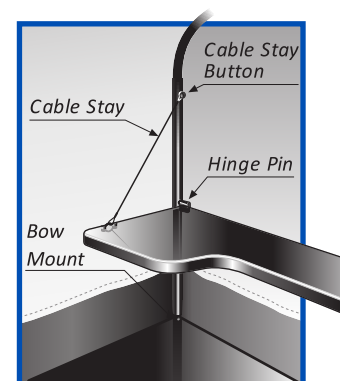

Fig. 3
- At the fridge end of the galley bow, unscrew the bow mount and rest it on the bench (Fig. 3).
- Support the weight of the galley shelf and detach the cable stays from the cable stay buttons. Gently swing the shelf down so that it hangs on the hinge pins (Fig. 3).